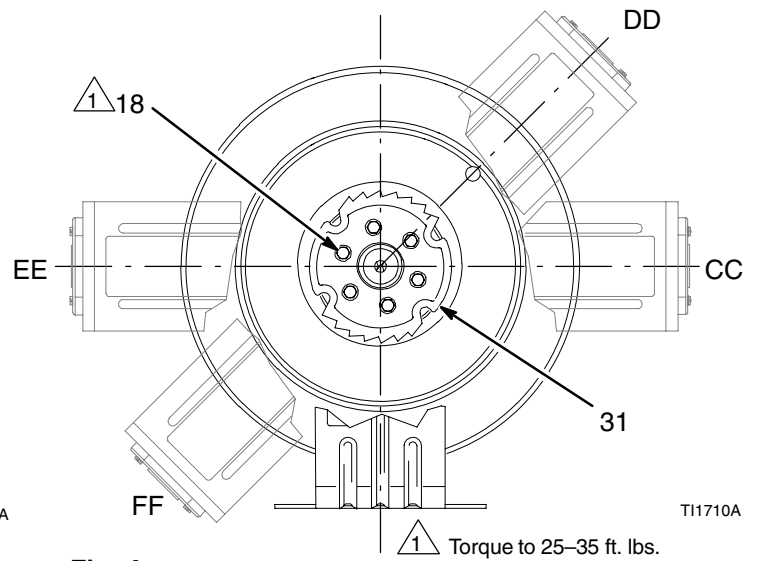

Fig. 4
- If the desired roller support arm (37) position is CC, DD, EE, or FF, rotate the ratchet (31) counter-clockwise one screw hole (60°). This will assure retraction when the hose is at maximum extension. See Fig. 4.